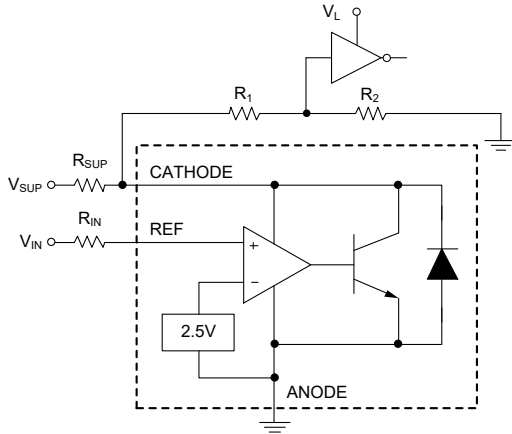
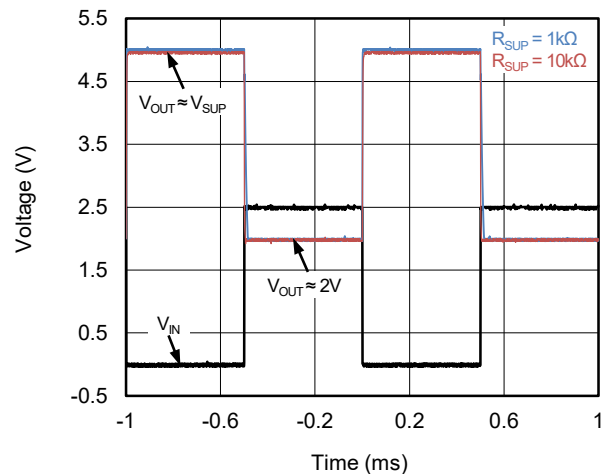

Figure 3. Comparator Application Schematic
Figure 4. Output Response with Various Cathode Current
As shown in Figure 3, the SGM432BQ is always used as a comparator with 2.5V integrated reference in application, for this design, the parameters are listed in Table 1. The REF pin voltage is compared with reference inside and is amplified. Also, the SGM432BQ responds fast if the operation current  $I_{KA}$  is large enough. In Figure 4, it is clear to see that the output response with  $R_{SUP} = 1k\Omega$  is much faster than  $R_{SUP} = 10k\Omega$ . The maximum cathode current of  $I_{MIN}$  is 0.7mA, any cathode current below this value will cause a low response (low open-loop gain) for the application of comparator.
The input resistance should be less than 10k $\Omega$  in order to minimize the voltage drop between  $V_{IN}$  and  $V_{REF}$ . The readability of the logic output of the comparator should be guaranteed so that it can be received by the next stage. In Figure 4, the  $V_{IL}$  of the comparator logic is 2V, which is sufficient for a 5V supply voltage. However, for the logic stage which is powered by 1.8V or 3.3V, the  $V_{IL}$  is hard to be figured out. To accommodate this, a voltage divider should be taken into account. Due to the Open-Collector (OC) output stage, the  $V_{IH}$  is equal to the voltage of its power supply. When the voltage divider is used to attenuate  $V_{IH}$ , please make sure that the sum of  $R_1$  and  $R_2$  is greater than the resistance  $R_{SUP}$  to the power supply.